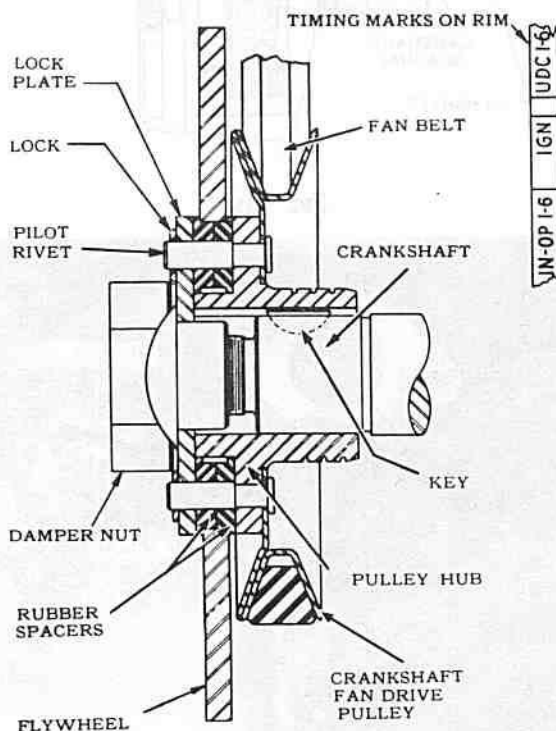

FIG. 159.—CONSTRUCTION OF THE CHAMPION VIBRATION DAMPER
**CHAMPION AND COMMANDER** The vibration damper consists of a flywheel driven through rubber discs. Oscillations of this flywheel during periods of crankshaft torsional vibration tend to neutralize or dampen such vibrations. No adjustments are necessary. If the vibration damper does not function correctly, the rubber discs should be replaced. Timing marks for both the valves and the ignition are located on the outside rim of the vibration damper flywheel (see Figs. 159 and 160). Tighten the crankshaft vibration damper cap screw on the Champion to 130-140 foot-pounds (18,0-19,4 kilogram-meters) torque and the vibration damper nut on the Commander to 160-170 foot-pounds (22,1-23,5 kilogram-meters) torque.